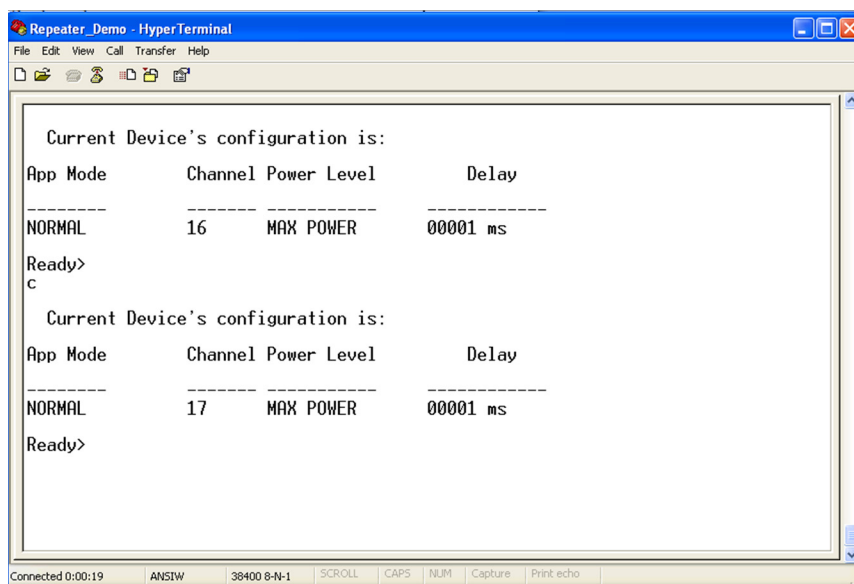

Figure 6-8. Switching Channels
- Type “c” to change the RF channel (11 to 26). The channel change appears as shown in Figure 6-8